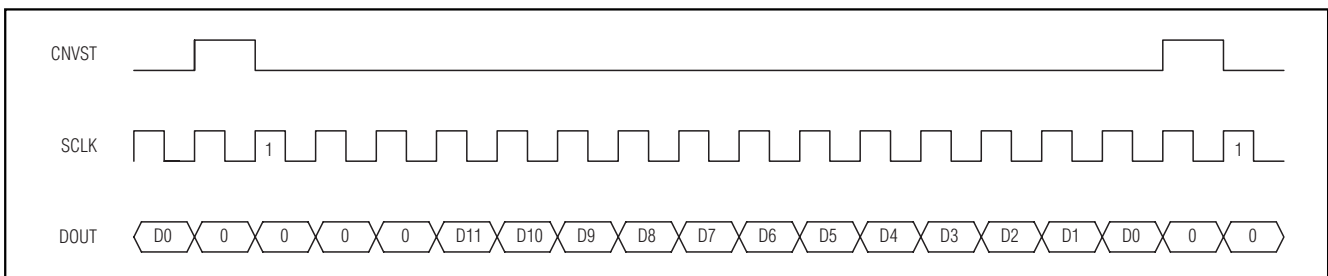
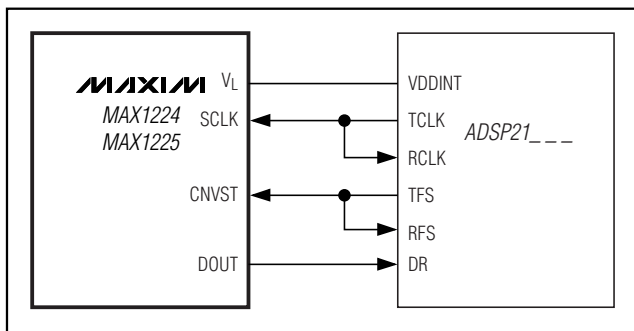

Figure 17. DSP Interface—Continuous Conversion
Figure 19. Interfacing to the ADSP21_---
The MAX1224/MAX1225 can also be connected to the TMS320C54_ by using the data transmit (DX) pin to drive CNVST and the CLKX generated internally to drive SCLK. A pullup resistor is required on the CNVST signal to keep it high when DX goes high impedance and 0001hex should be written to the DXR continuously for continuous conversions. The power-down modes may be entered by writing 00FFhex to the DXR (see Figures 17 and 18).
The MAX1224/MAX1225 can be directly connected to the ADSP21_ _ _ family of DSPs from Analog Devices, Inc. Figure 19 shows the direct connection of the MAX1224/MAX1225 to the ADSP21_ _ _. There are two modes of operation that can be programmed to interface with the MAX1224/MAX1225. For continuous conversions, idle CNVST low and pulse it high for one clock cycle during the LSB of the previous transmitted word. The ADSP21_ _ _ STCTL and SRCTL registers should be configured for early framing (LAFR = 0) and for an active-high frame (LTFS = 0, LRFS = 0) signal. In this mode, the data-independent frame-sync bit (DITFS = 1) can be selected to eliminate the need for writing to the transmit-data register more than once. For single conversions, idle CNVST high and pulse it low for the entire conversion. The ADSP21_ _ _ STCTL and SRCTL registers should be configured for late framing (LAFR = 1) and for an active-low frame (LTFS = 1, LRFS = 1) signal. This is also the best way to enter the power-down modes by setting the word length to 8 bits (SLEN = 1001). Connect the V_L pin to the ADSP21_ _ _ supply voltage when the MAX1224/MAX1225 are operating with a supply voltage higher than the DSP supply voltage (see Figures 17 and 18).